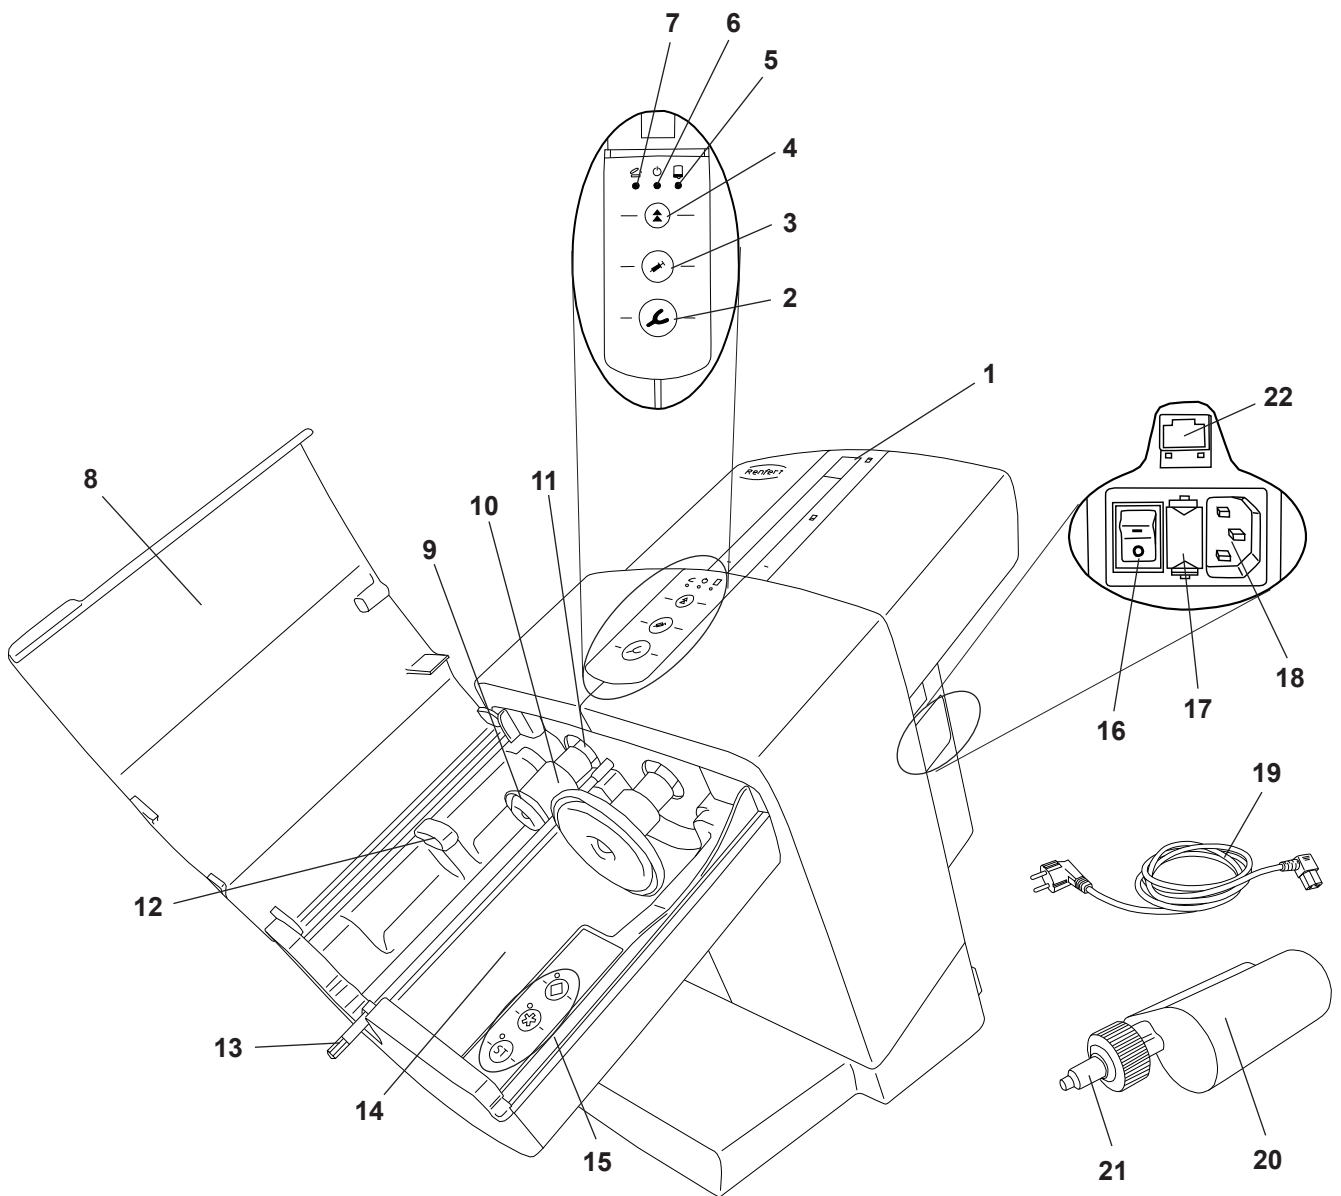

Fig. 1
- ⇒ Connect the provided power cord (19, Fig. 1) to the mains connection socket (18).
- ⇒ Switch the unit on at the mains power switch (16).
- ⇒ Close the unit cover (8, Fig. 1).
- ⇒ Press the retract key (4).
- ◆ The pressure discs (9, Fig. 1) retract to their home position where they stop.
- ⇒ Remove the shipping restraint (23).
A cartridge can only be installed or replaced if both pressure discs (9, Fig. 1) are in their home position.
⇒ Close the unit cover (8, Fig. 1).
⇒ Open the unit cover (8, Fig. 1).
The cover will only close if the cartridge has been properly installed. The red “Unit cover open” LED (7, Fig. 1) will remain on until the unit cover has been properly closed.
- Dispenser (3), slow extrusion speed
- ◆ The mixing hexagon (13, Fig. 1) starts to turn and threads its way automatically into the mixing nozzle (21, Fig. 1) and then stops again.